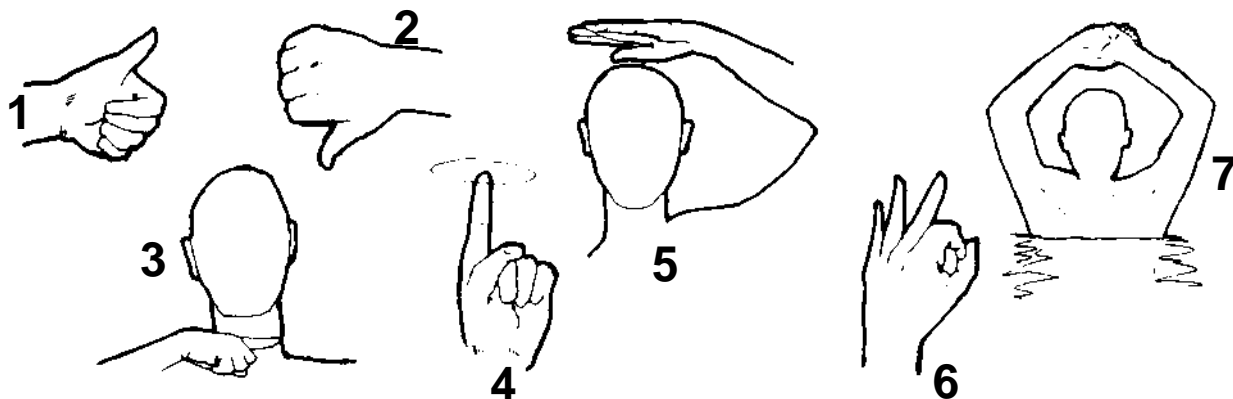

FIGURE 2.14 SKIER'S HAND SIGNALS
3. Have a second person aboard to observe the skier and inform the driver about the skier's hand signals (**Figure 2.14**). The driver must give full attention to operating the boat and the waters ahead.